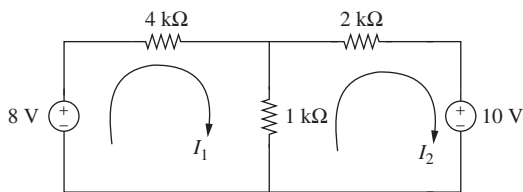

Figure P7.1 Two-loop circuit for problem P7-1.
- 7-1.** Consider the two-loop circuit shown in Fig. P7.1. The currents I_1 and I_2 (in amps) satisfy the following system of equations: